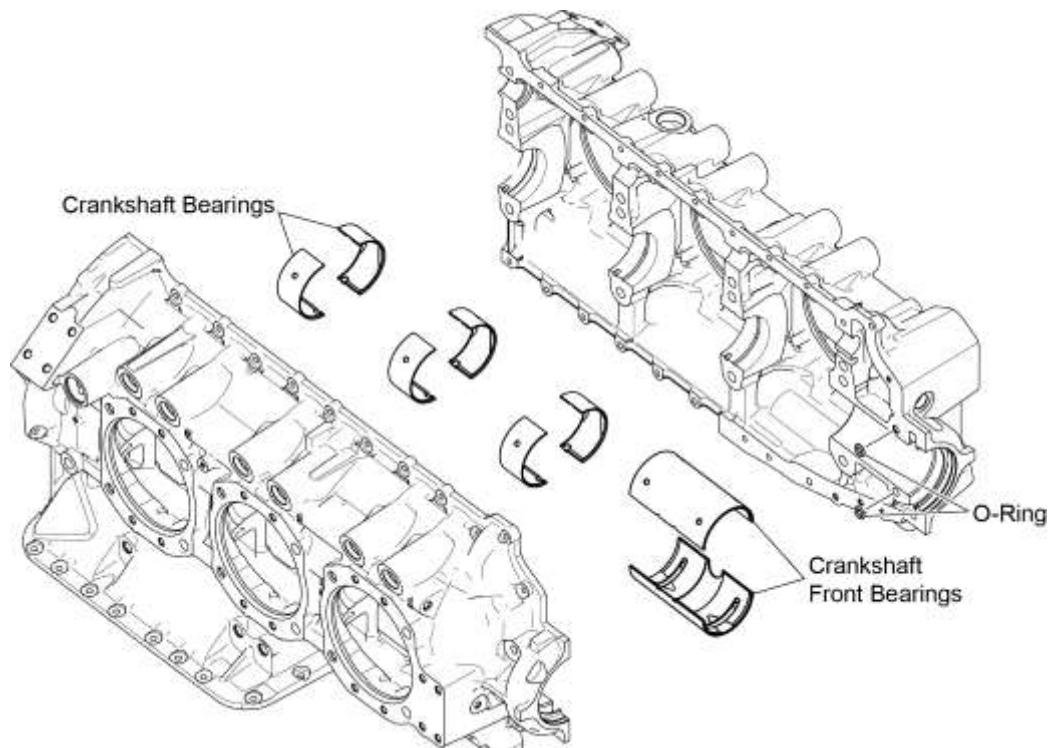

Figure 13
- (5) Remove and discard the crankshaft bearings, crankshaft front bearings, and O-rings (Figure 13).
The crankcase dimensional inspection is done to make sure that the crankshaft bearings and camshaft bearing saddles (Figure 13) formed by the crankcase halves are within allowable limits.
- (1) Install new crankshaft bearings at all main bearing locations in the crankcase halves (Figure 13).